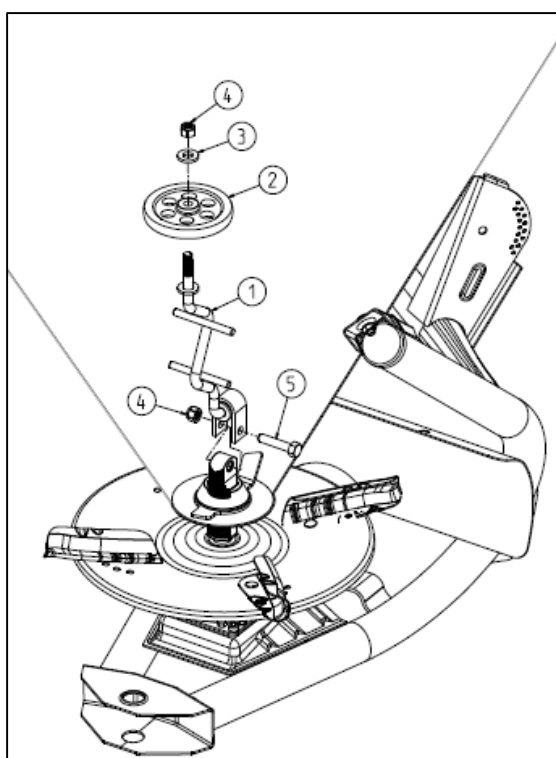

Fig. 6-1
- Check buffer wheel (2 in Fig. 6-1) to make sure it spins freely on the agitator. Slightly loosen nylock nut M12 (4 in Fig. 6-1) if buffer wheel does not spin freely.
- Attach upper agitator (1 in Fig 6-1) with entainer with M12 X 1.75 X 55 hex bolt (5 in Fig. 6-1). Secure with nylock nut M12 (4 in Fig. 6-1). Draw locknut up snug. Do not tighten.